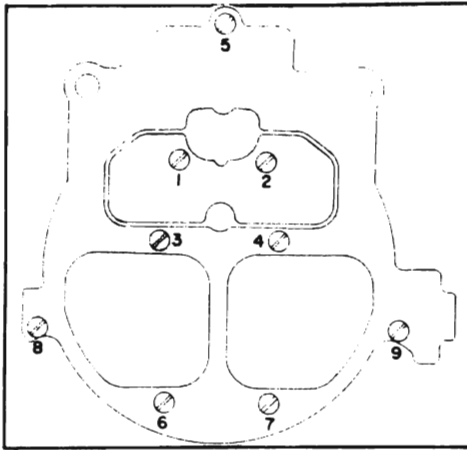

Figure 64-48 - Air Horn Screw Tightening Sequence
1. Place air horn assembly on bowl carefully, positioning secondary metering rods, vent tubes, and accelerating well tubes through air horn gasket. Do not force air horn assembly on to float bowl as distortion of secondary metering plates will result. A slight sideward movement will center metering rods in metering plates. See Figure 64-48 for proper tightening sequence.
valve or air valve due to distortion of the air horn, the air horn screws must be tightened in the proper sequence. Figure 64-48 shows the proper tightening sequence.